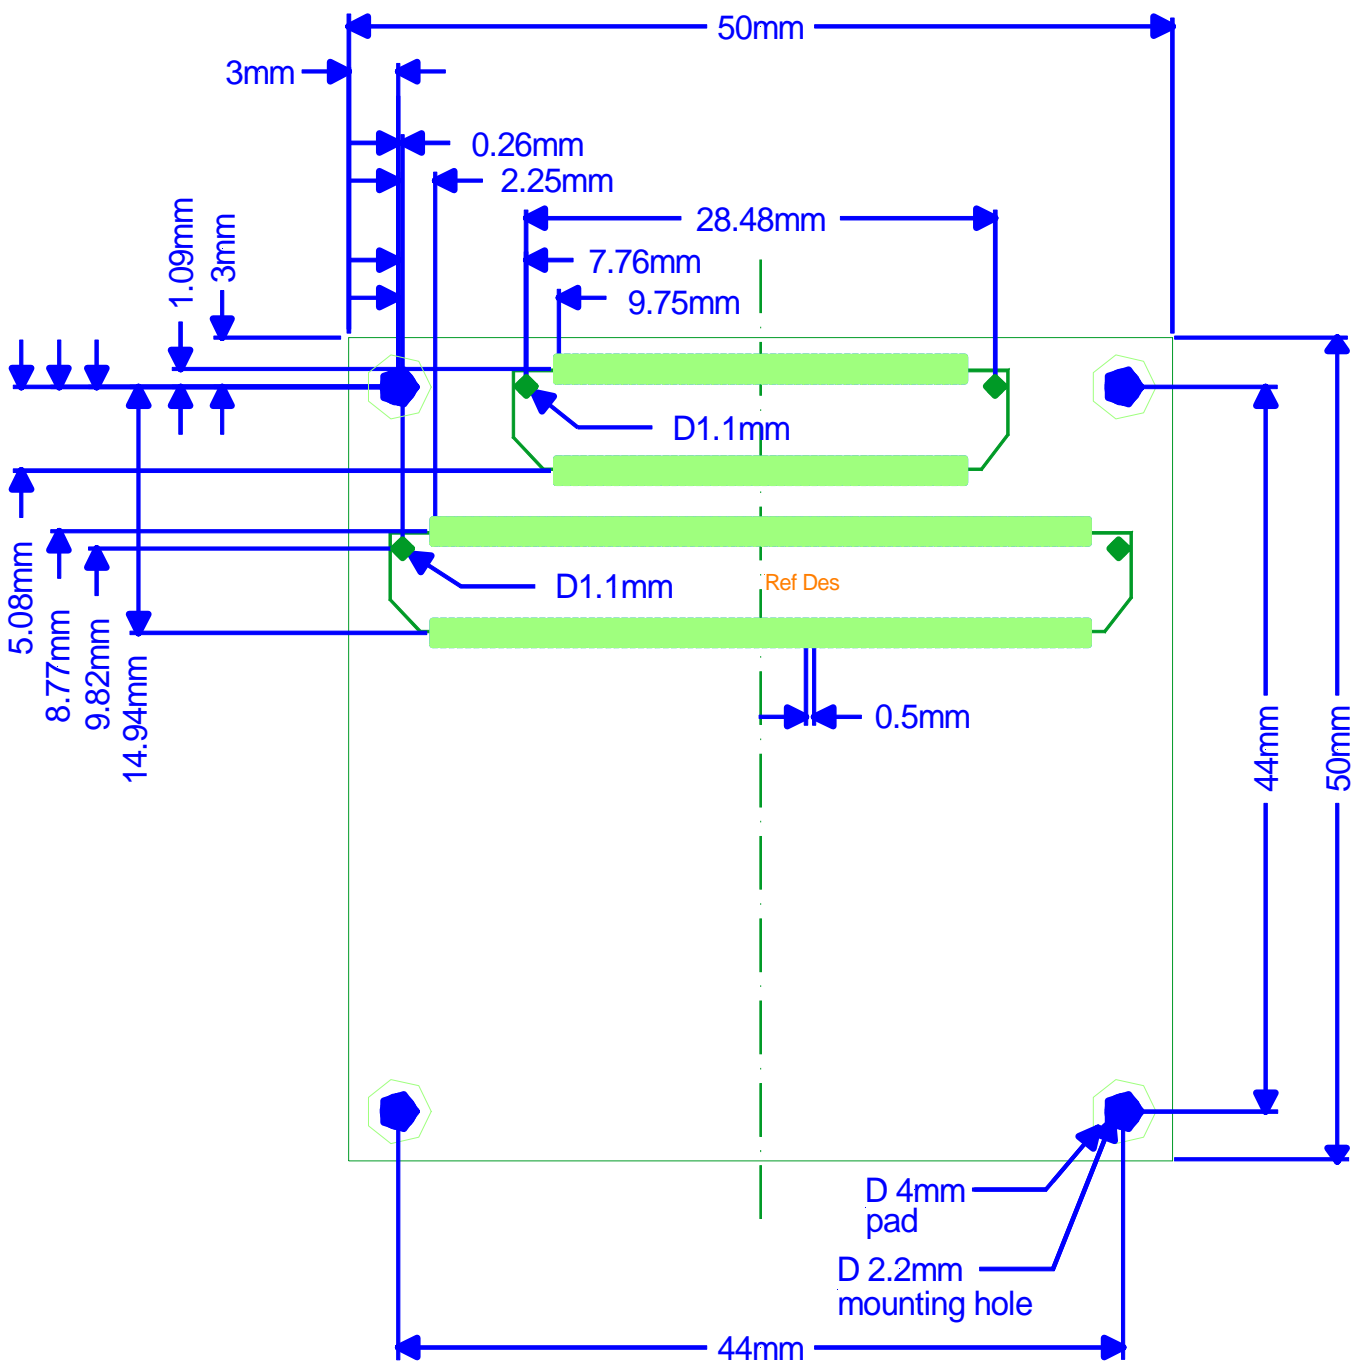

Figure 14: Footprint of the phyFLEX-AM335x
3. the link “Carrier Board” within the category Dimensional Drawing leads to the layout data as shown in *Figure 14*. It is available in different file formats. Use of this data allows to integrate the phyFLEX-AM335x SOM as a single component into your design.